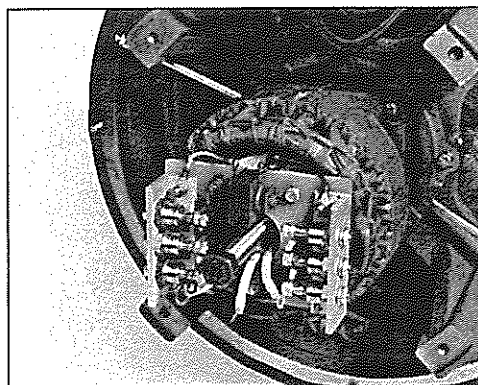
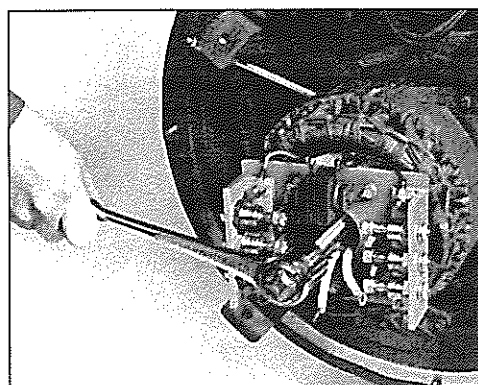

Figure 6-12
Figure 6-13
3. Use a six inch, 7/8-14NF capscrew for a puller (see section 9). The hole that the mounting bolt goes through is threaded. Screw the puller bolt into the hole and it will push against the end of the shaft (figure 6-12). Carefully feed the main rotor leads through the hole as the exciter armature is removed (figure 6-13).